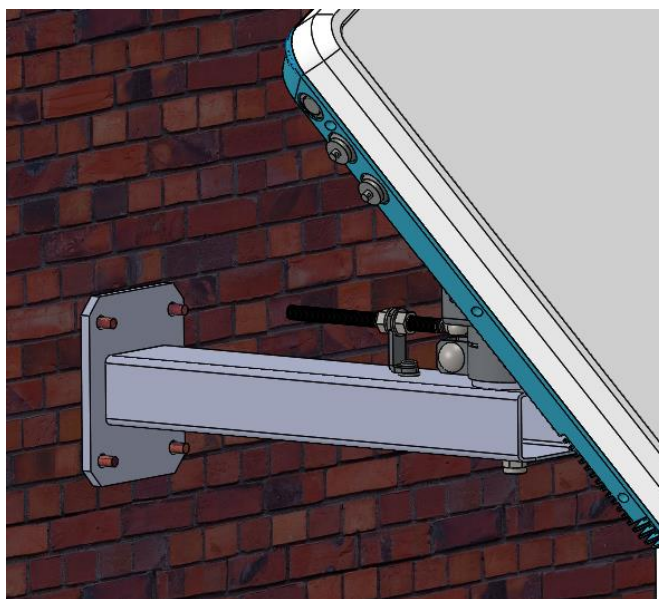

Figure 5-2 The bracket is fixed on the wall
2. The bracket is fixed on the wall with expansion screw, as shown in Figure 5-2.